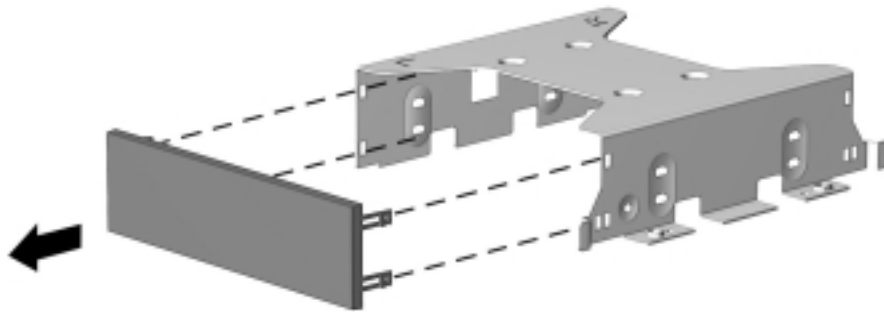

Figure 5-15. Removing the Half-Height Bay Blank Bezel Cover
8. Remove the half-height bay blank bezel cover from the bezel cage (Figure 5-15).